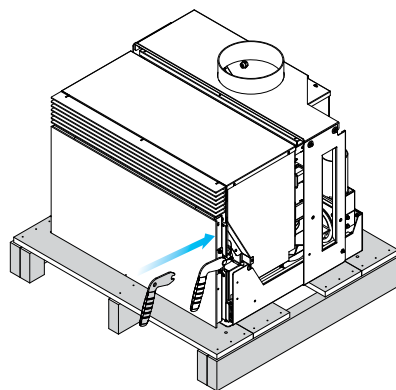

fig. 6.1.0
- 2) Place the provided handle on the door's closing lever (fig. 6.1.0) on the appliance as soon as you receive it, while it is still fastened on the pallet.